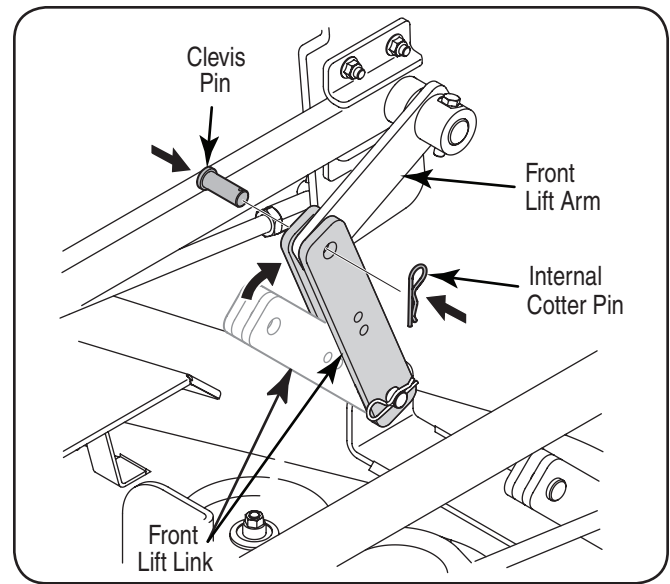

Figure 14
- From either side of the tractor, remove internal cotter pin and withdraw the clevis pin from the front lift link on the deck. Refer to Figure 14.
- Pivot the lift link upward so that it straddles the sub-frame front lift arm. Align the holes and insert the clevis pin. Secure with the internal cotter pin. See Figure 14.
- From each side of the tractor, remove the internal cotter pin and withdraw the clevis pin to disconnect the front lift links from the sub-frame front lift arms. Refer to Figure 14. Reinsert the clevis pins into the deck front lift links and secure with the internal cotter pins to store with the deck.